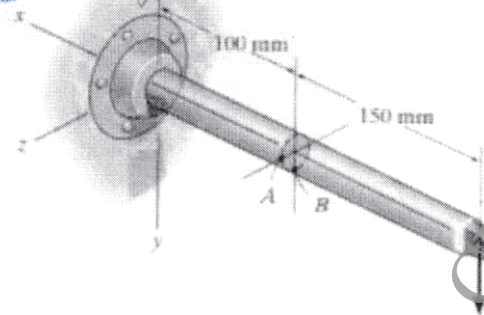

Figure 3
- Q8) a)** The bar has a diameter of 40mm. if it is subjected to the two force components at its end as shown in figure3. Determine the state at point A and B and show the results on a different volume element located at this point. [9]